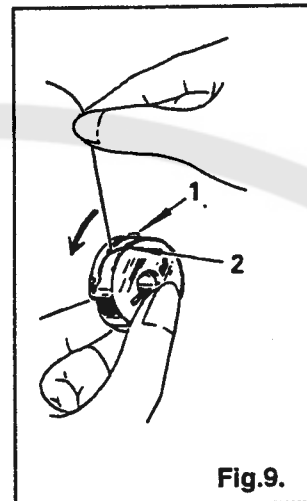

Fig.9.
2. Pull thread into notch (1), and draw it under tension spring (2), Fig.9.